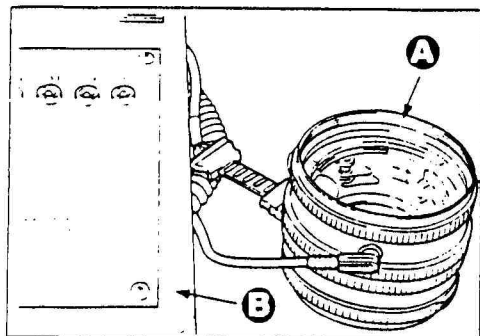

Fig.1
1. Charge the shutter of the lens (A) for inspection, and connect to the lens shutter timing tester (B). Set the mode select knob (C) of the tester at "LS". (See Fig. 1.)